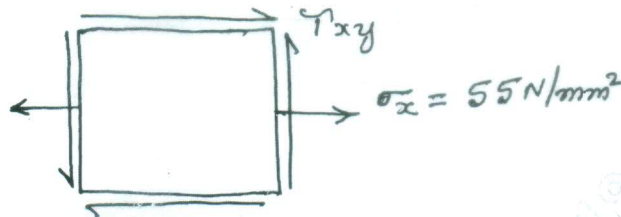

Fig.Q1(b)
b. The state of stress at a point in a strained member is shown in Fig.Q1(b). The tensile principal stress is known to be 84 N/mm^2 . Determine: